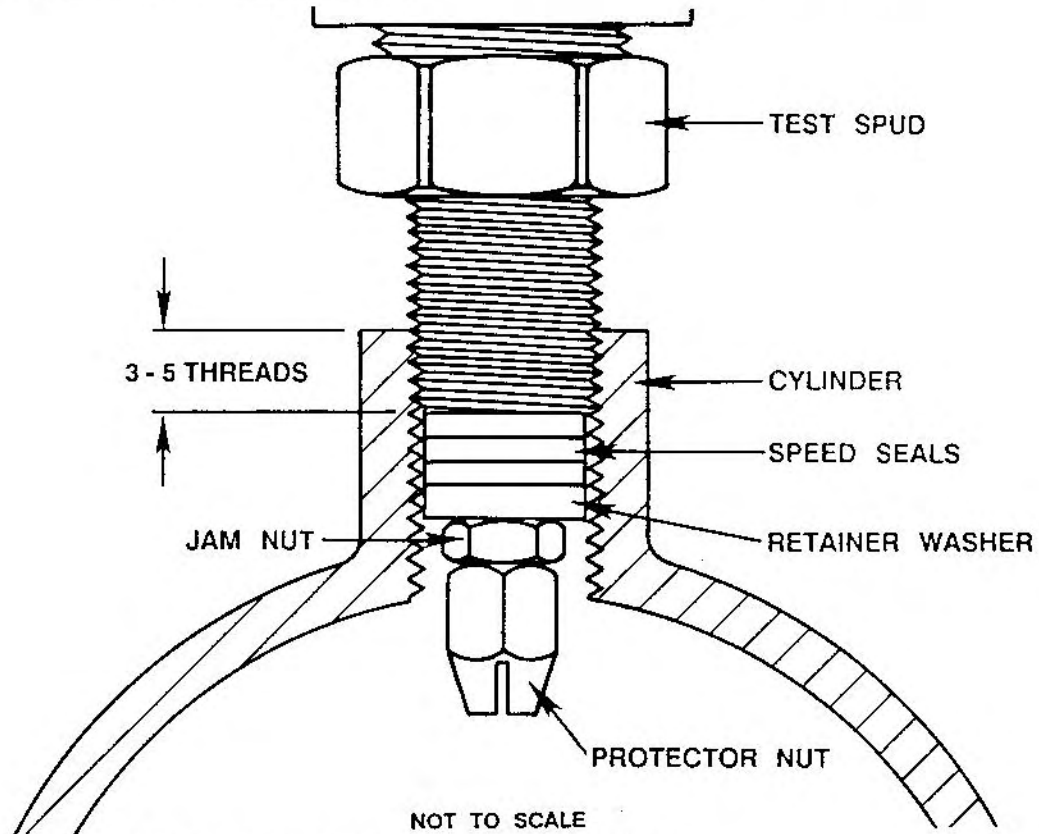

FIGURE 3) HYDRACLOSE SEAL, CYLINDER NECK
3. When connecting a cylinder to the test head, make certain that the cylinder neck threads are properly engaged with the test spud (see Figure 3 below). Before testing each cylinder, inspect the cylinder neck threads. Cylinders with excessively worn neck threads must be re-tapped or condemned. The test spud must engage with three (3) to five (5) neck threads in order for the cylinder to be safely tested. If the cylinder is not properly attached to the test head (3 - 5 turns), the cylinder may be blown off of the test head during pressurization causing possible injury and/or damage to the equipment. If you have any doubts about the connection between the cylinder neck and the test head, do not test the cylinder.
15. **CAUTION:** The Hydraclose Test Head must be securely engaged with three (3) to five (5) threads in the cylinder neck in order to safely seal (see Part 4, Figure 3). All cylinders should be inspected before testing to insure that the neck threads are not excessively worn or damaged. Cylinders with inadequate neck threads should be re-tapped or condemned.